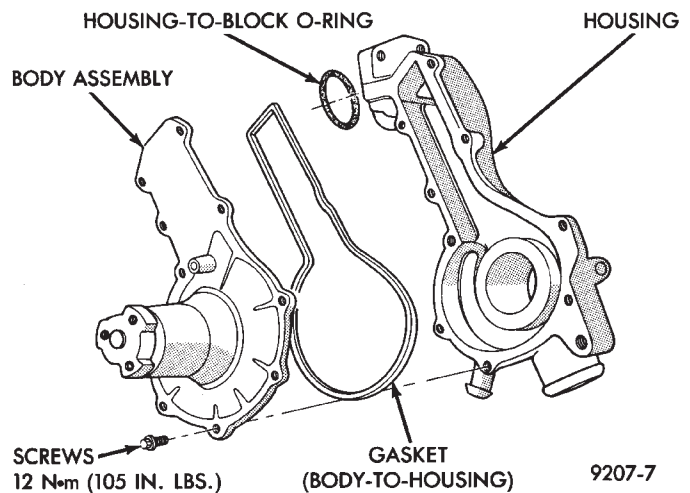

Fig. 2 2.5L Water Pump Components
(1) Remove three screws holding pulley to water pump.
(2) Remove nine screws holding water pump body to housing. Remove the pump body from housing. (Fig. 2)
(3) Clean gasket surfaces on water pump housing and engine block.
(4) Remove and discard O-ring gaskets and clean O-ring grooves.
(1) Install new O-ring gasket in body O-ring groove.
(2) Assemble pump body to housing and tighten nine screws to 12 N•m (105 in. lbs.) (Fig. 2).
(3) Rotate pump by hand to check for freedom of movement.
(4) Position water pump pulley to water pump. Install three screws and tighten to 30 N•m (250 in. lbs.).
(5) Position new O-ring in housing to block O-ring groove.